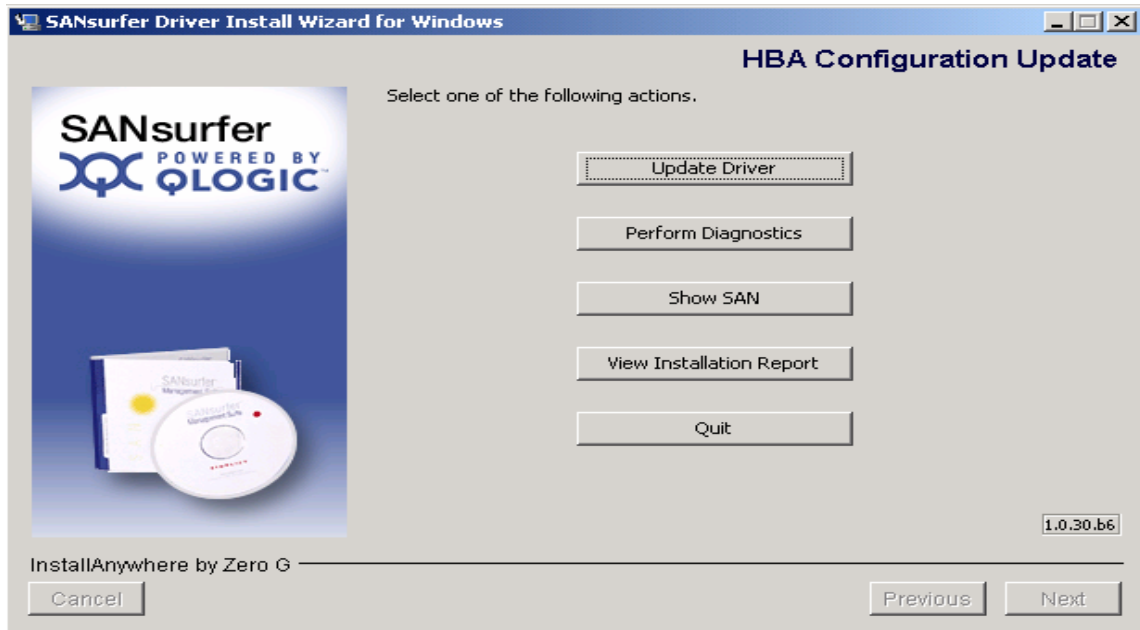
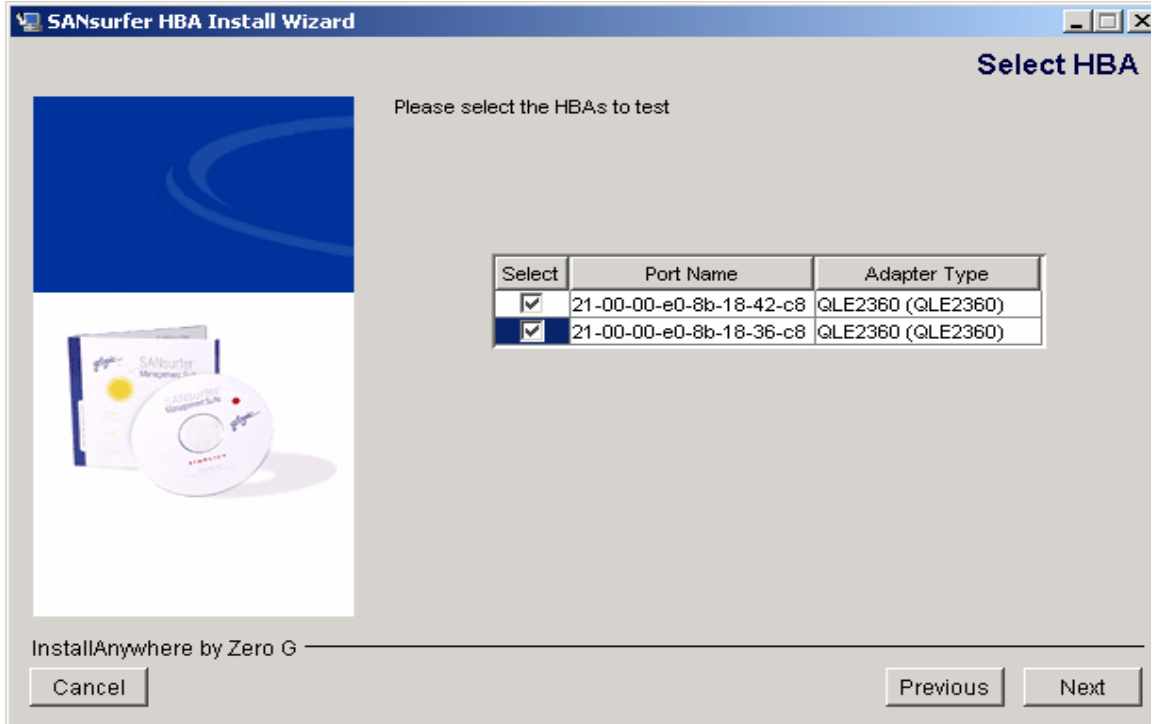

Figure 64 HBA Configuration update dialog box
Figure 65 Select HBA dialog box
9. The **HBA Configuration Update** screen, shown in Figure 65, will appear after the driver installation is complete. From here, you may perform diagnostic procedures or other post-installation tasks. If you are finished with your adapter update, click **Quit**.
1. From the **HBA Configuration Update** screen, click **Perform Diagnostics** (refer to Figure 64). The **SANsurferHBA Install Wizard** window will appear, as shown in Figure 65 on page 87.